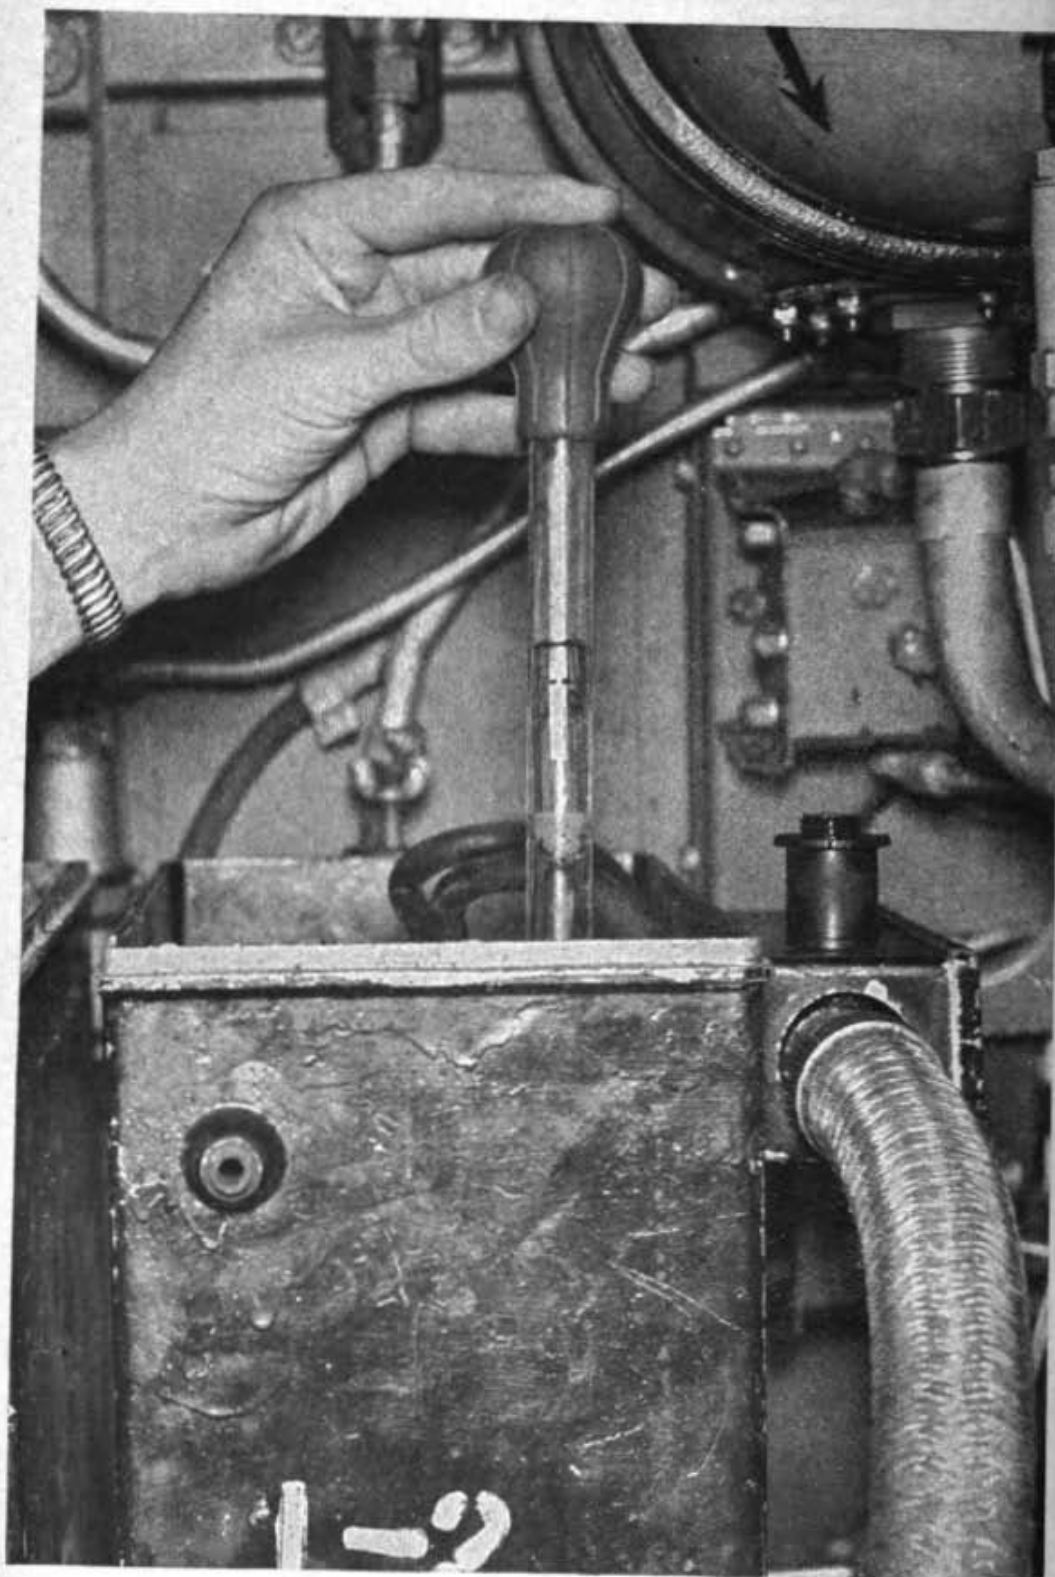

Figure 61. Checking specific gravity of electrolyte in a storage battery.
- (3) The specific gravity of the electrolyte in each cell must be checked with a hydrometer. (See par. 14b(11).) Figure 61 illustrates the correct position of the hydrometer when this operation is performed.